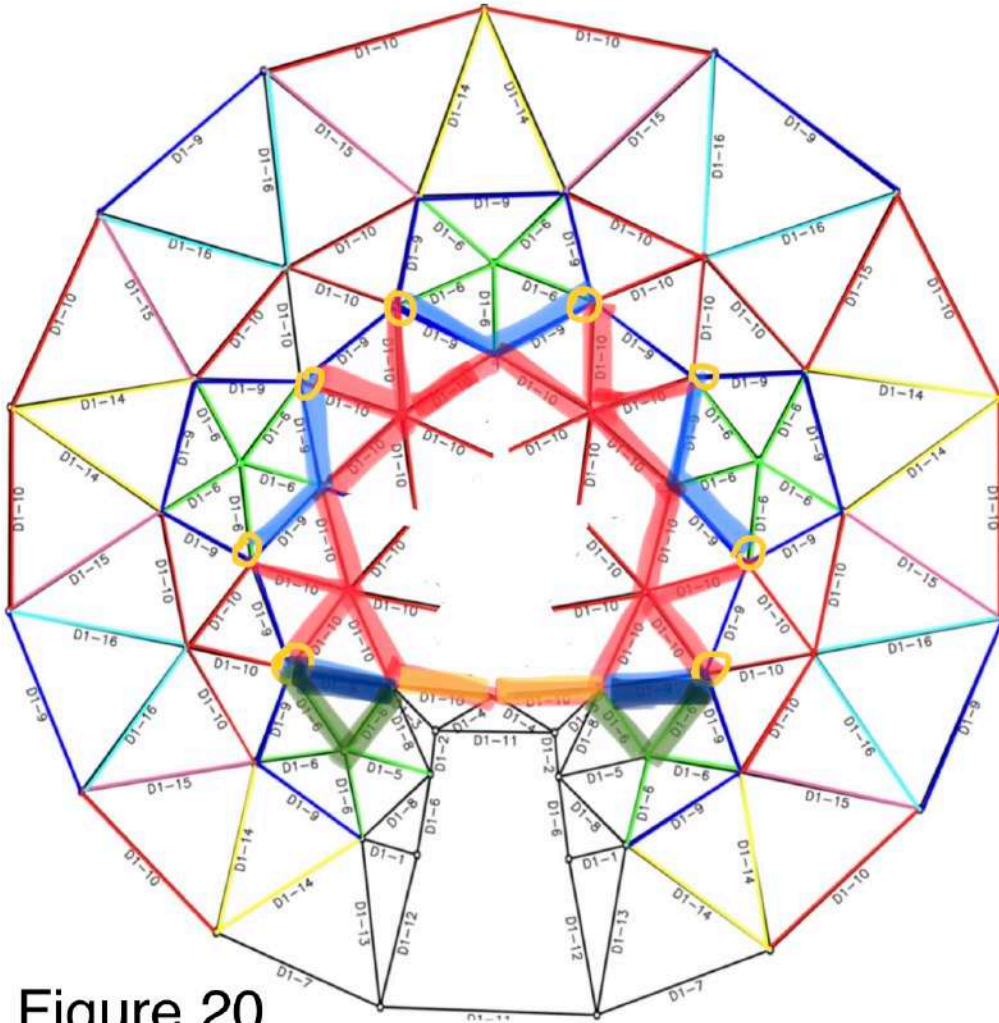

Figure 20
- Retrieve eight **#9 struts**. These will also contribute to the vertical layer of the dome highlighted blue, **Figure 20**)
- At the connection points (encircled orange, **Figure 20**) where you just added the pre-assembled 6-pointed stars, attach the **#9 struts** (highlighted blue, **Figure 20**). Add a washer to the bolt before screwing on the nut.
- Beside the door, the lower and upper end of the **#9 struts** (dark blue, **Figure 20**) connect to the remaining two **#6 struts** of the 5-pointed pentagons beside the door (highlighted green, **Figure 20**)
- At the upper end of these **#9 struts**, attach a **#10 strut** to either side (highlighted orange, **Figure 20**), which will connect to the vertex of the door (**#4 struts**)